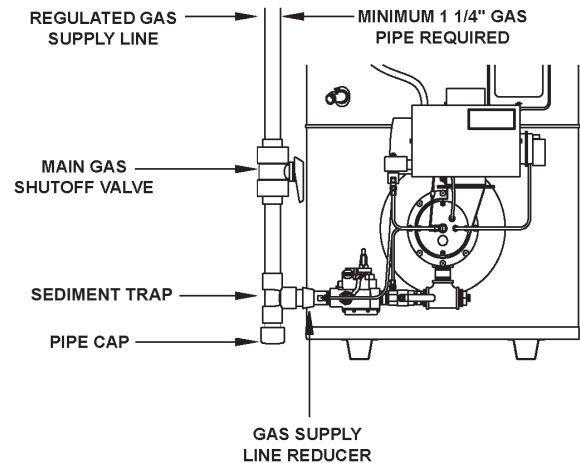

FIGURE 23.
To trap any dirt or foreign material in the gas supply line, a sediment trap must be incorporated in the piping (see Figure 23). The sediment trap must be readily accessible and not subject to freezing conditions. Install in accordance with recommendations of serving gas suppliers. Refer to the latest version of the National Fuel Gas Code.
1. For test pressures exceeding 1/2 psi (3.45 kPa) disconnect the water heater and its Main Gas Shutoff Valve from the gas supply piping system during testing, see Figure 23. The gas supply line must be capped when disconnected from the water heater.